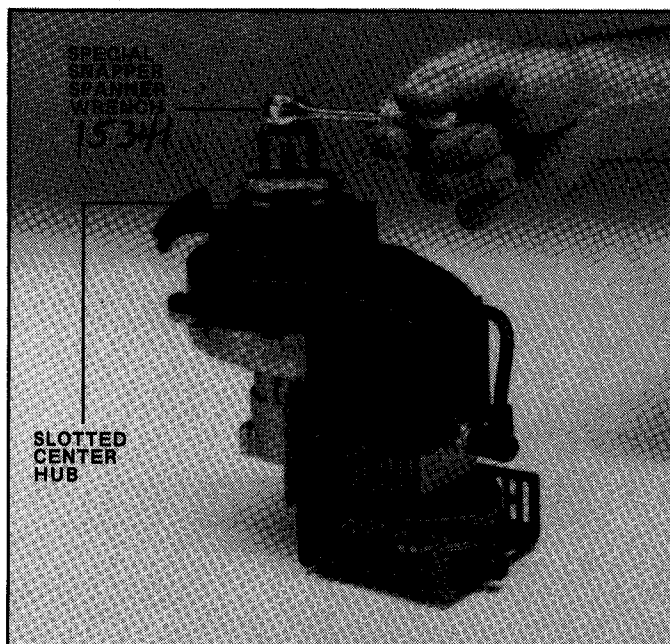

FIGURE 6.3
6.3 The clutch shoe assembly is removed as a whole unit and should never be taken apart. With Special SNAPPER Spanner Wrench inserted into the center hub, tap the wrench handle sharply in a counter-clockwise direction. Care should be taken not to scar the engine shaft. Remove the assembly and inspect for wear. See Figure 6.3.